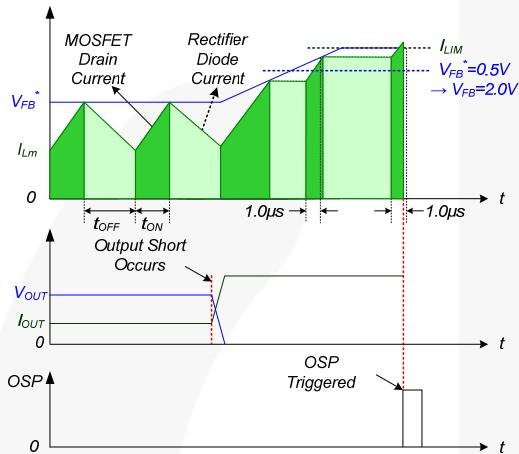

Figure 24. Output-Short Protection
4.3. Output-Short Protection (OSP): If the output is shorted, steep current with extremely high di/dt can flow through the SenseFET during the minimum turn-on time. Such a steep current creates high-voltage stress on the drain of the SenseFET when turned off. To protect the device from this abnormal condition, OSP is included. It is comprised of detecting V_{FB} and SenseFET turn-on time. When the V_{FB} is higher than 2.0V and the SenseFET turn-on time is lower than 1.0μs, this condition is recognized as an abnormal error and PWM switching shuts down until V_{CC} reaches V_{START} again. An abnormal condition output short is shown in Figure 24.